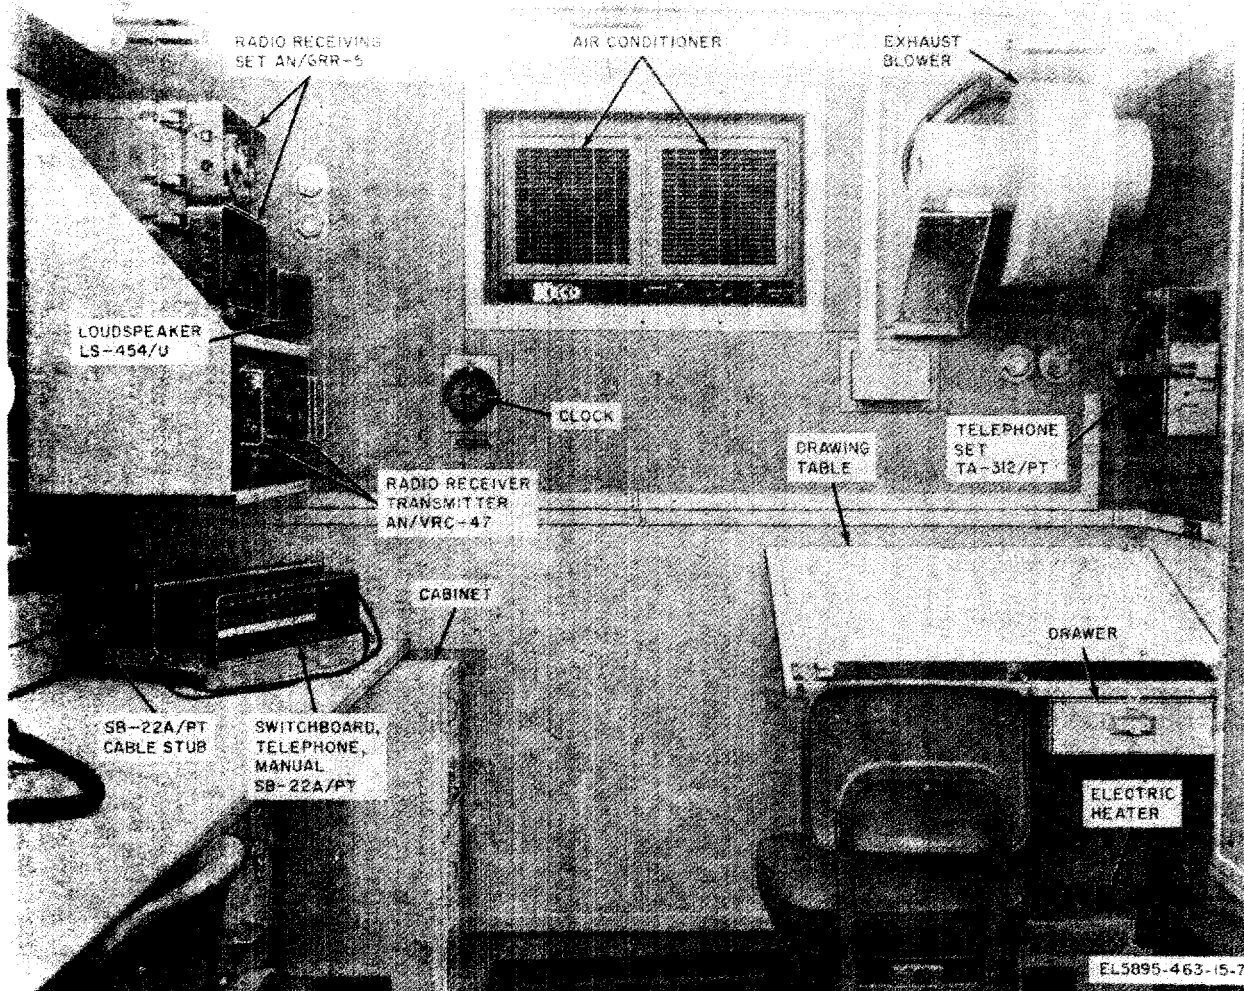

Figure 1-7. Operations Center, Communications AN/MS-31A, interior front view.
(1) *Switchboard, Telephone, Manual SB-22A/PT (fig. 1-7).* The SB22A/PT (TM 11-5805-262-12) is a local, battery-powered telephone switchboard used to switch 12 telephone circuits.
(2) *Telephone Set TA-312/PT (fig. 1-7).* The TA-312/PTs (TM 11-5805-201-12) are used for local telephone communication. One TA-312/PT (less carrying case) is mounted on the curbside wall. Two TA-312/PTs are stored in a storage cabinet; when required for use, they are placed on the tabletop adjacent to a PHONE jack.
(4) Radio Set AN/VRC-47. The AX VRC-47 (TM 11-5820-401-10) provides short range, two-way, frequency-modulated (FM) radiotelephone communications between vehicles or crew-served weapons. The AN VRC-47 radio set consists of Receiver-Transmitter, Radio RT-524/VRC (fig. 1-7) and Receiver, Radio R-112 VRC (fig. 1-7), and Loudspeaker, Permanent Magnet LS-154/U (fig. 1-7).
(5) Radio Receiving Set AN/GRR-5 (fig. 1-7). The AN GRR-5 (TM 11-5820-284-15) is a mobile amplitude modulated (am.) receiver used primarily to monitor warning broadcast nets. The AN GRR-5 consists of Receiver R-174/GRR-5, Power Supply PP-308/URR, and accessories.
b. *Blowers.* The blowers, one store and one installed, are equipped with removable covers which muffle the sound when the blower is in operation. The installed blower (fig. 1-7) is an exhaust blower to the outside of the shelter.